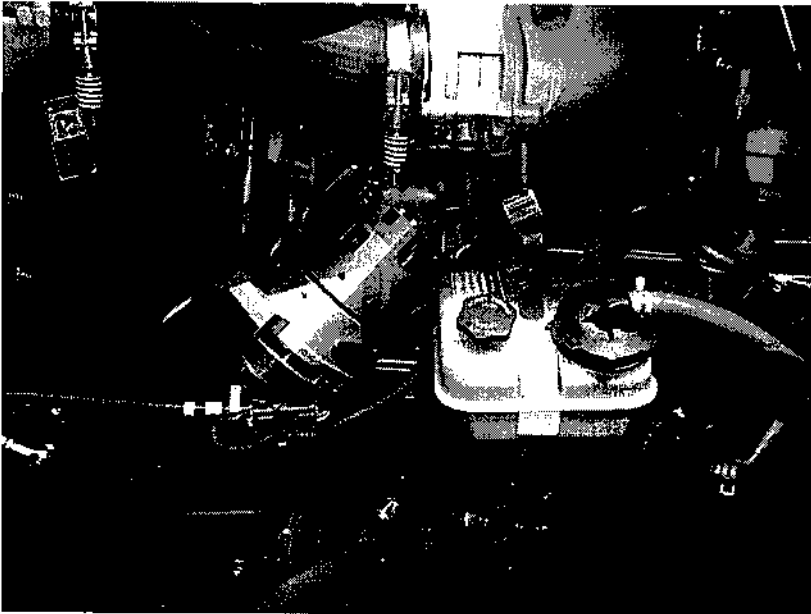

Figure 1 Alternator Removal
5. Gently remove the alternator and set on frame rail. Be careful not to damage the alternator or the cables attached to it. See Figure 1.